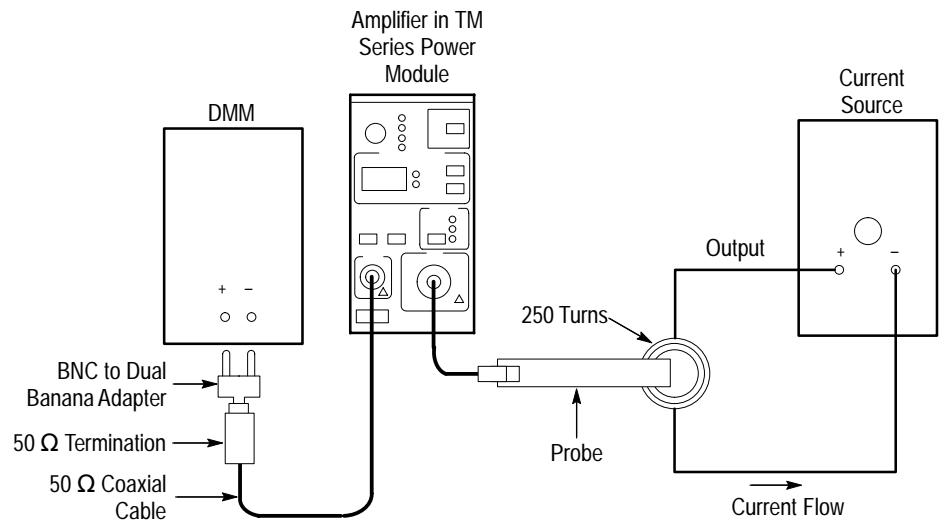

Figure 6–5: DC Gain Accuracy Adjustment Setup
2. Connect the current loop to the current source as shown in Figure 6–5.